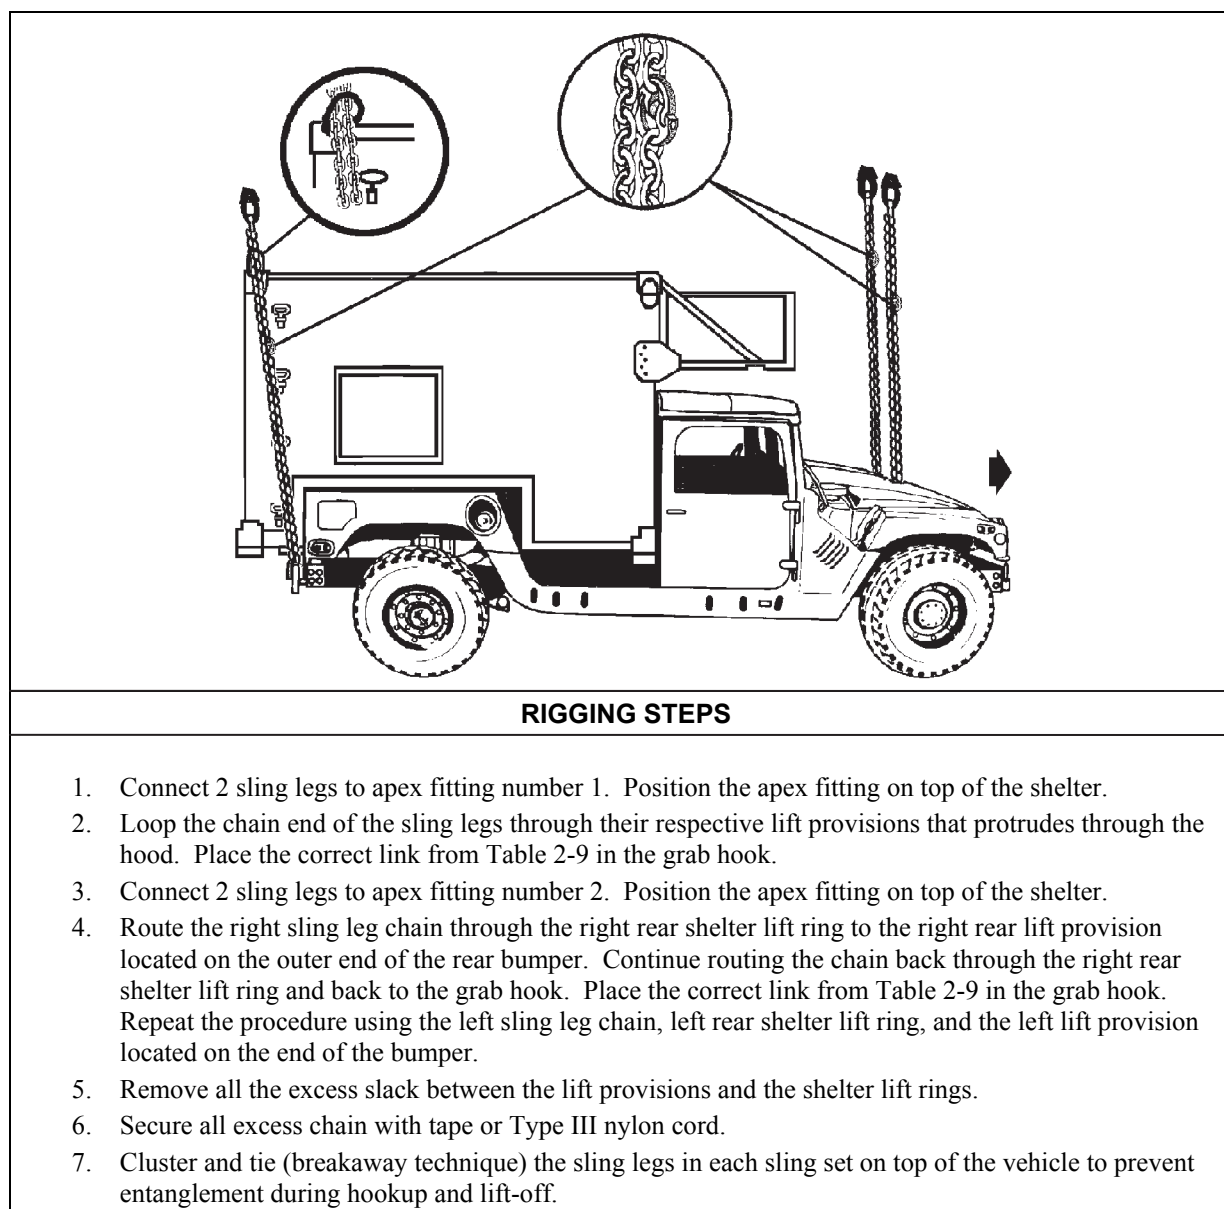

Figure 2-8. LMS Shelter Mounted on M113 using Shelter Lift Rings as Sling Guides
- **Rigging.** Rig the load according to the steps in Figure 2-8.